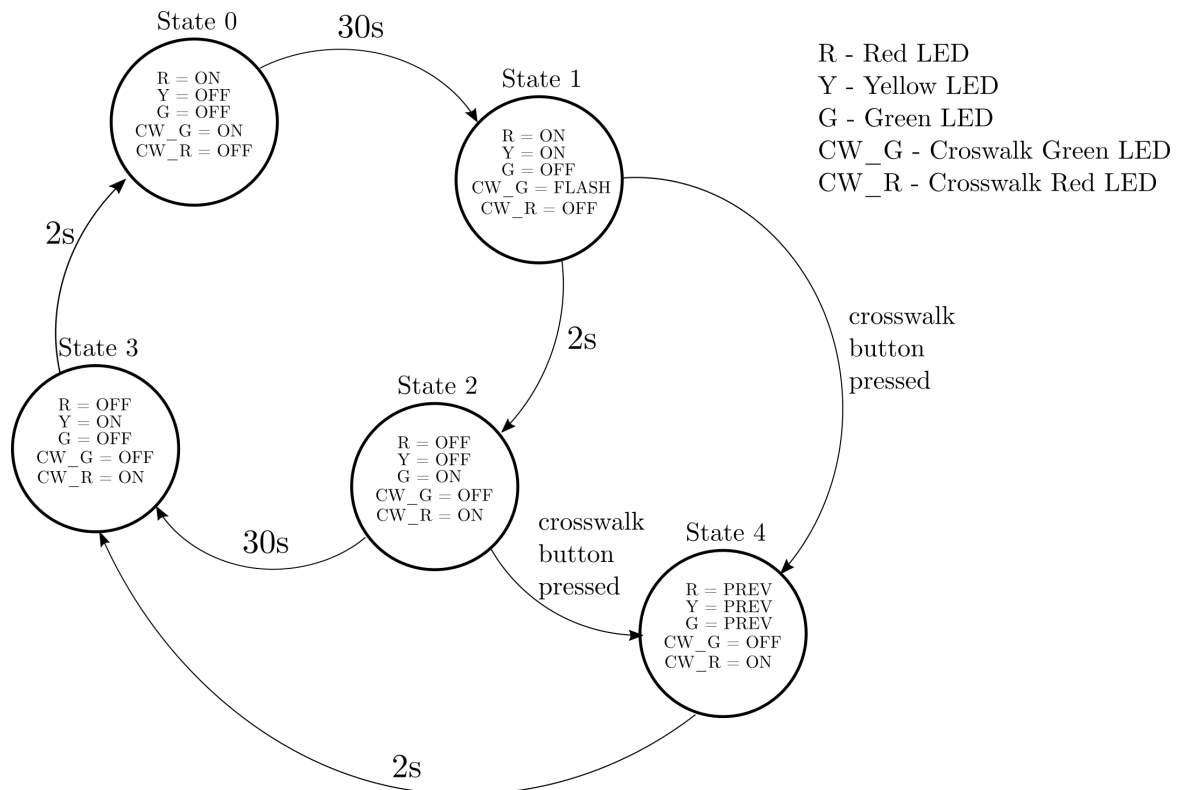

Figure 1: Finite State Machine (FSM) for the traffic light application
For this question you have to build a traffic light/pedestrian crossing controller. The traffic lights will tick through their normal sequence, however, the crosswalk button will trigger an interrupt that will cause the traffic light to turn red after a small delay. A finite state machine (FSM) of the traffic light sequence can be seen in Figure 1.
5. Complete the code above to implement the traffic light **without** the crosswalk button. The LEDs must correctly change state according to the FSM in Figure 1, you may ignore state 4 for this question. You will need to use the memory-mapped registers to configure and control the GPIO pins, you are not permitted to use the Arduino `digitalWrite()` functions. In state 1, the green crosswalk LED should flash with a period of 250ms. If we are in an unknown state make all the LEDs flash forever with a period of 250ms.
6. Add the functionality for the crosswalk button according to the FSM in Figure 1. When the crosswalk button is pressed the system should move into state 4 with minimal delay. You may use the **millis()** function to read the current time in milliseconds.